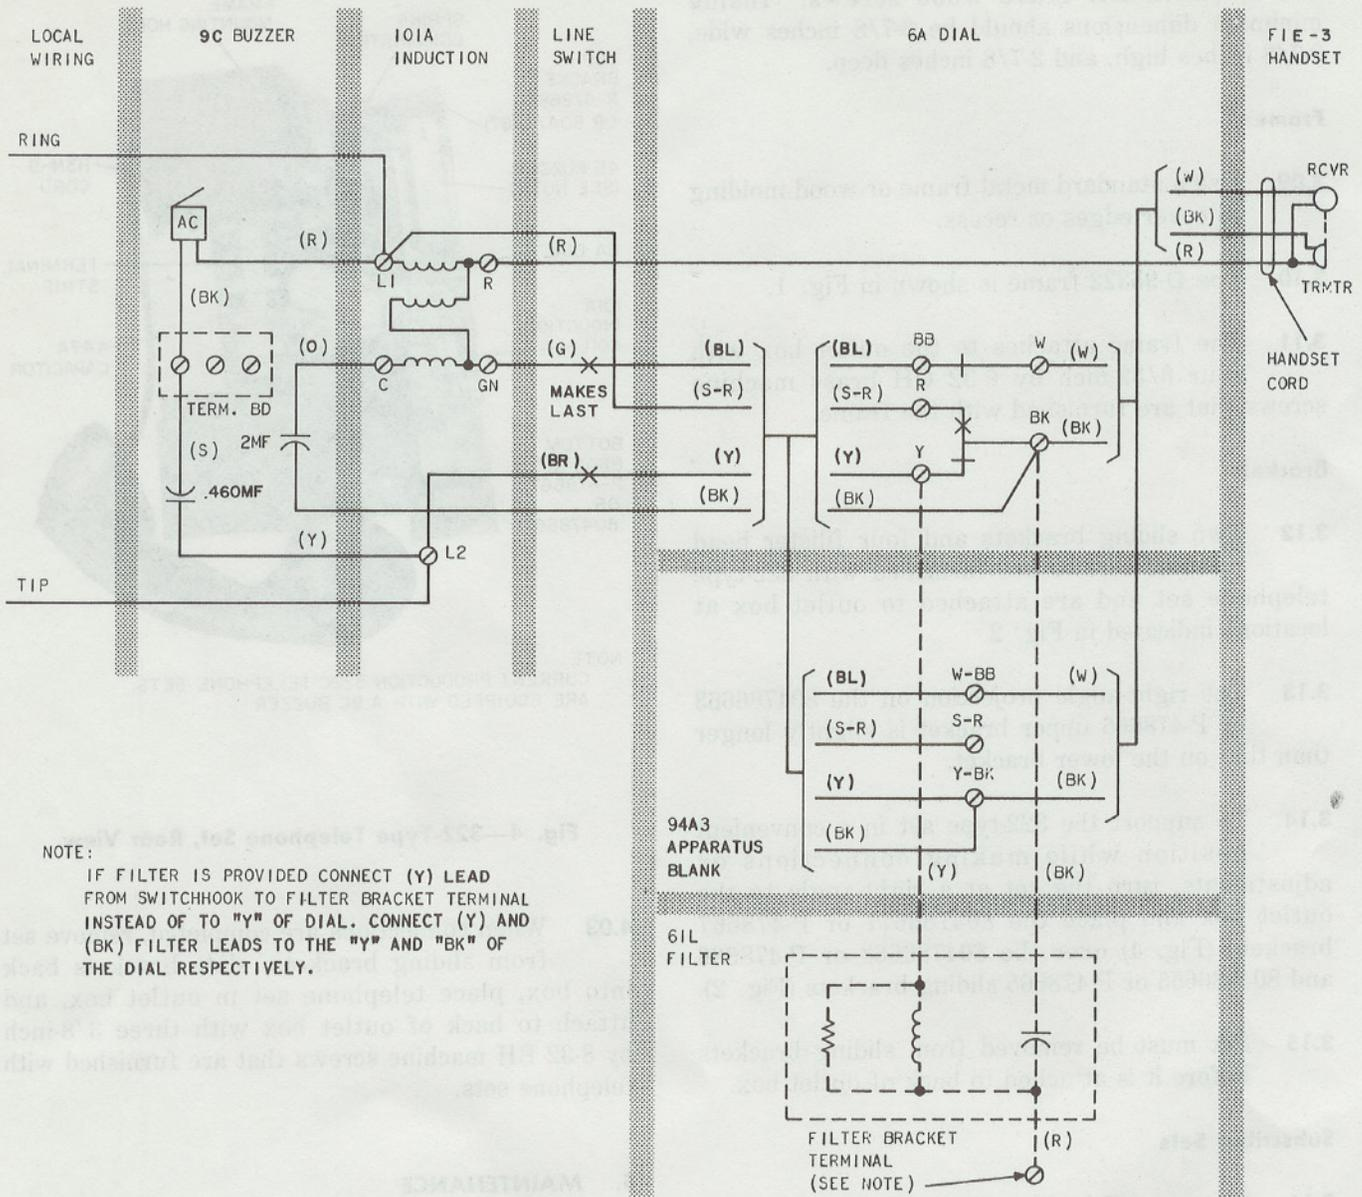

Fig. 5—Current 322-Type Telephone Set, Connections
- 4.01** For wiring and connections of 322-type telephone set, refer to Fig. 5 and 6.